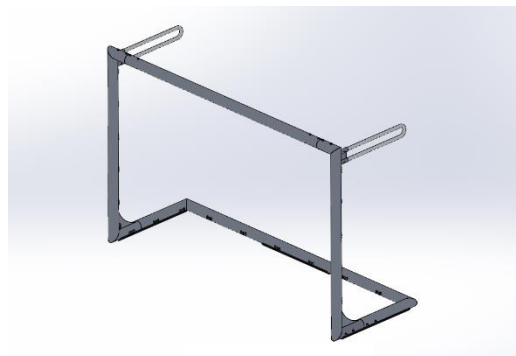

Figure 7
7. Before attaching the net, carefully flip the goal into the proper position by lifting up on both ends of the crossbar (Fig. 7).